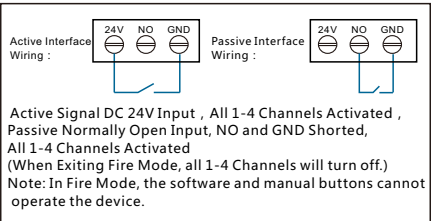

Figure 5. Fire Interface Description
6. Fire Interface:(see Figure 5).